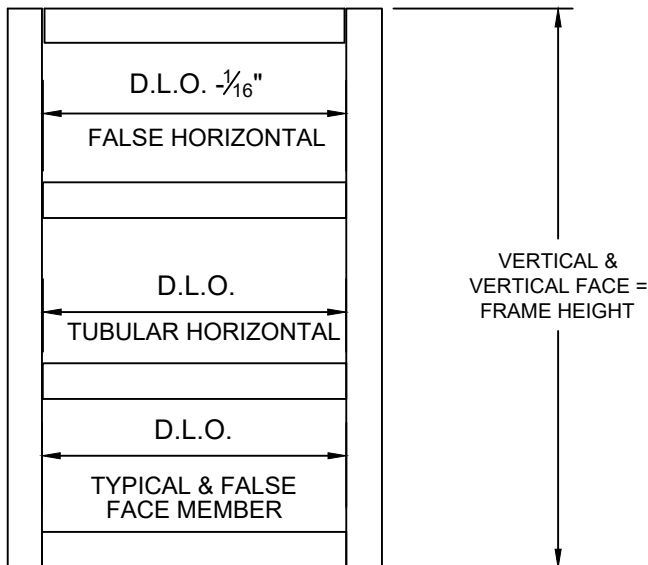
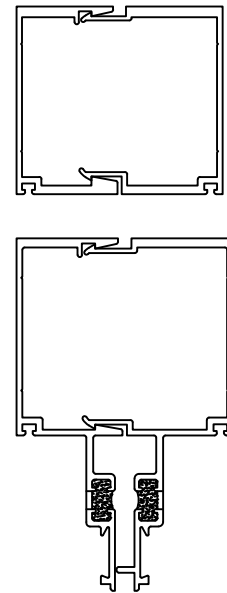

FIGURE 1
FIGURE 2
1.2 Cut material to size. SEE FIGURE 1 for guide. NOTE: Layout vertical mullions so that male and female sections are properly located. See FIGURE 2 below.